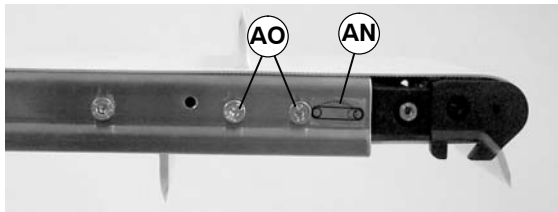

Figure 21
3. On tension end of the conveyor identified with a  label (AN of Figures 21 and 22), loosen four M6 socket head cap screws (AO).
4. On tension end of the conveyor identified with a  label (AN of Figures 21 and 22), loosen four M6 socket head cap screws (AO).
1. On tension end of the conveyor identified with a  label (AN of Figures 21 and 22), loosen four M6 low head screws (AO).
3. Tighten four M6 low head screws (AO of Figures 21, 22 and 29) to 40 in-lb (4.5 Nm) to secure idler spindle assembly (AP).